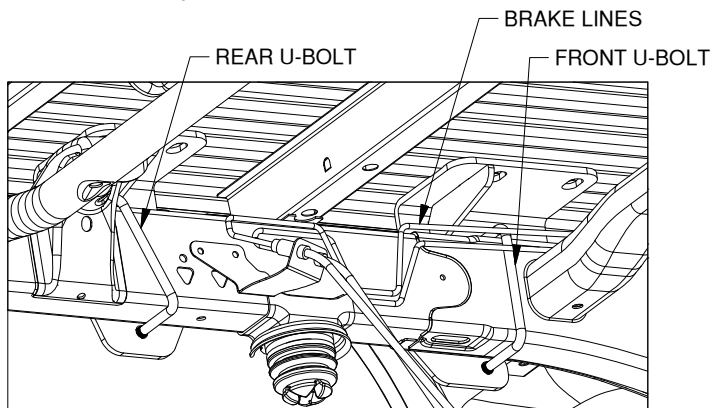

Figure C7: View looking at driver side frame.
- 4. Attach the U-bolts.** Each side plate will utilize two U-bolts for attachment to the frame. The driver side front U-bolt will need to be passed under the brake lines on the inside of the frame, see Figure C7. Push U-bolts through holes in side plate. Install lock washers and finish nuts on U-bolts. Hand tighten hardware only at this time.